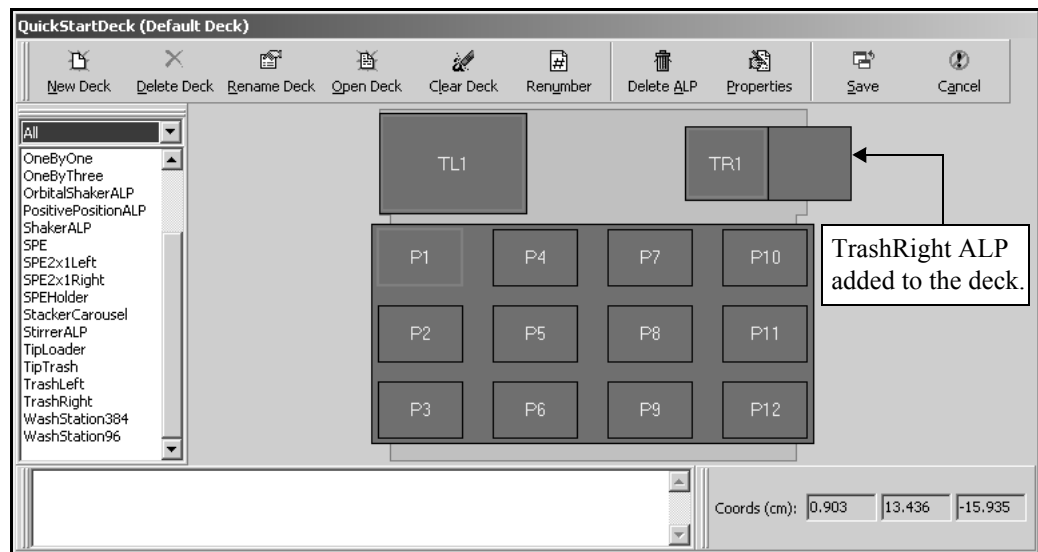

Figure 3-9. QuickStartDeck with TrashRight added
5. Drag and drop **TrashRight** to any location capable of supporting it (Figure 3-9). A TrashRight ALP has been added to the deck. This deck is now the default deck and is available in the Instrument Setup step.